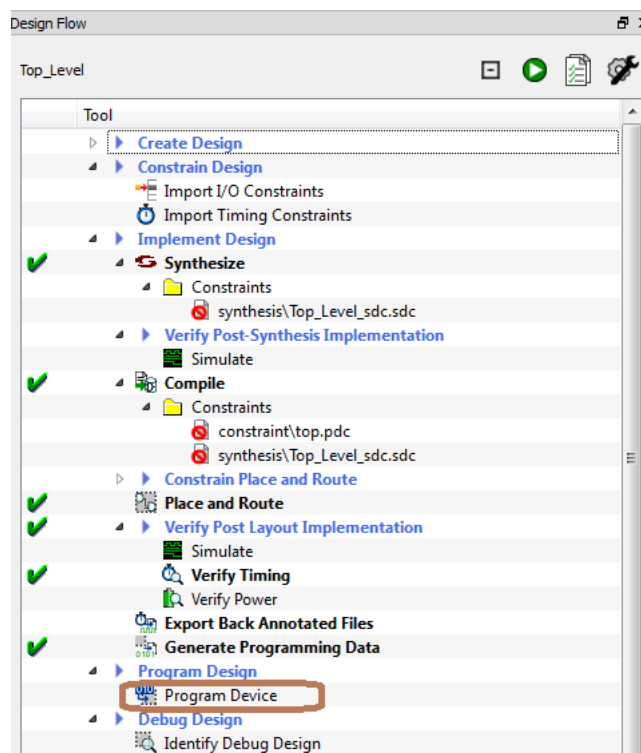

Figure 14 • Program Device
2. Double-click the **Program Device** under **Program Design** to program the Cortex-M1-enabled ProASIC3L Development Kit in the **Design Flow** window, as shown in Figure 14.